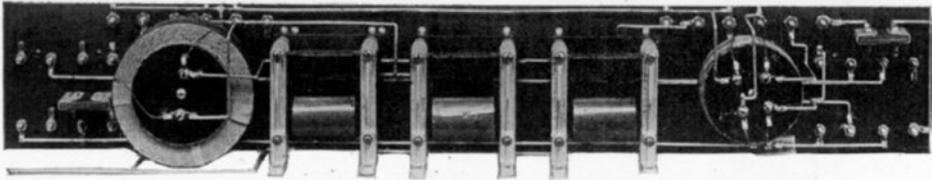

Fig. 1. In the rear view you can see the arrangement of the parts under the tube panels
17. Put  $\frac{1}{2}$ -in. 6-32 R. H. screws through the four outside holes in the disc having five holes. Put two lugs under each screw head. This arrangement can be seen in Fig. 1. Put a  $1\frac{1}{2}$ -in. 6-32 R. H. screw through the top and bottom discs and fasten the screw in place, so as to hold the discs and clamp the coil unit, with a 6-32 nut underneath. If you have trouble holding